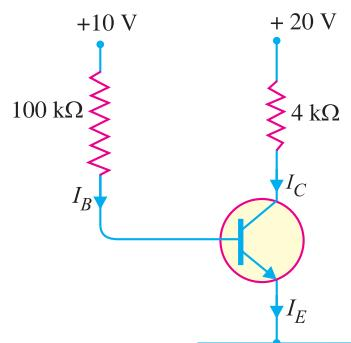

Fig. 9.48
2. Fig. 9.48 shows biasing with base resistor method. Determine the operating point. Assume the transistor to be of silicon and take  $\beta = 100$ .      [  $I_C = 0.93\text{ mA}$ ,  $V_{CE} = 17.3\text{ V}$  ]